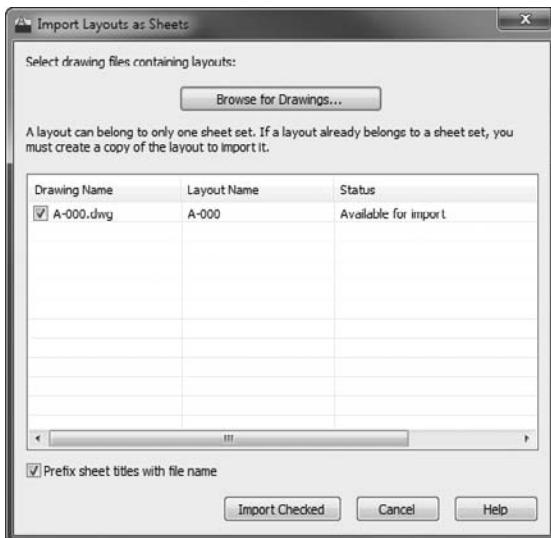

FIGURE 14.37 Importing the A-000 layout tab into Sheet Set Manager
3. After you select the A-000.dwg drawing, the layouts contained within it are listed in the Import Layouts As Sheets dialog box (see Figure 14.37). Because the drawing you selected had only one layout, the A-000 layout is the only one listed.